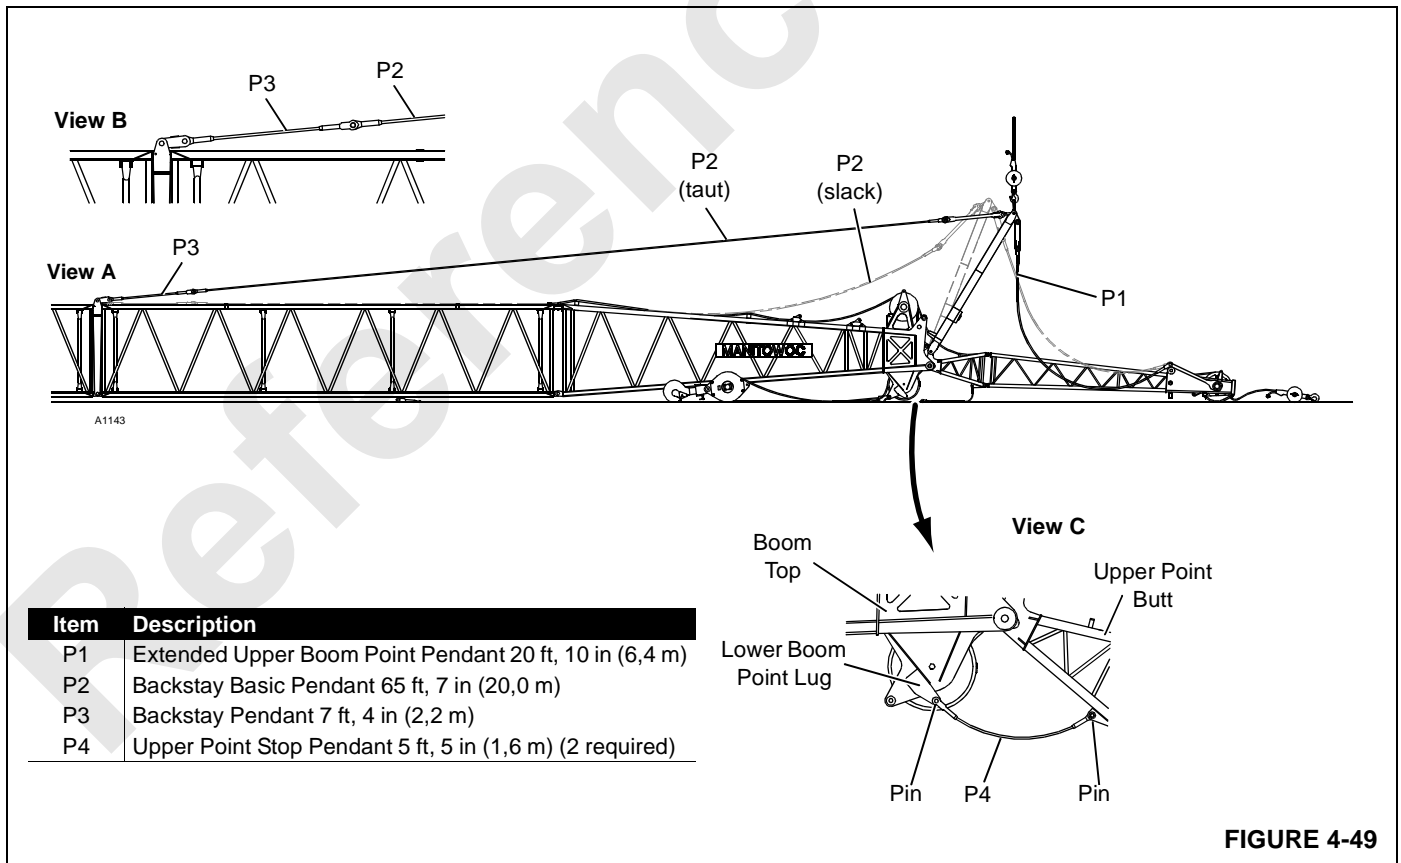

FIGURE 4-49
See Figure 4-49 for following procedure.
2. Pin pendants P4 to lugs on upper point and lower boom point (Figure 4-49, View C).
4. Disconnect upper point stop pendants from lower boom point lugs (Figure 4-49, View C).
1. Using appropriate slings, attach hook from assist crane to top of extended boom point strut (Figure 4-49, View A).
2. Slowly bring strut back assist crane until backstay pendants P2 are slack and can be unpinning from pendants P3 (Figure 4-49, View A).